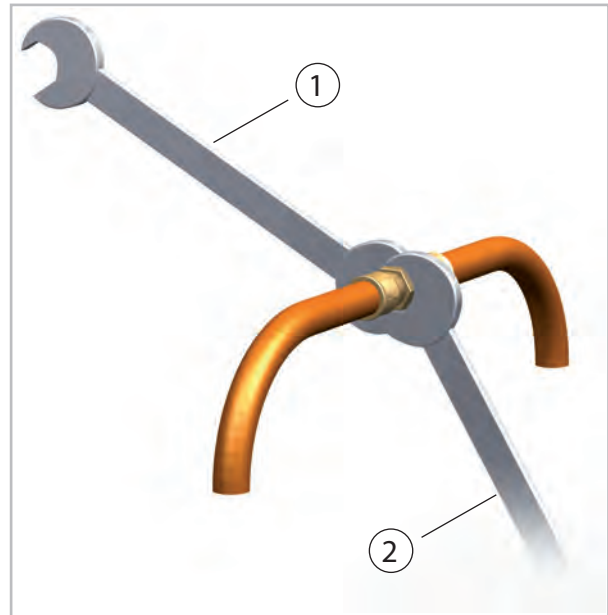

Fig. 40: Tightening the fitting
11. ➤ Then tighten the fittings with 2 appropriately-sized open-ended spanners. Use one spanner to counter the force when tightening the fitting (Fig. 40).